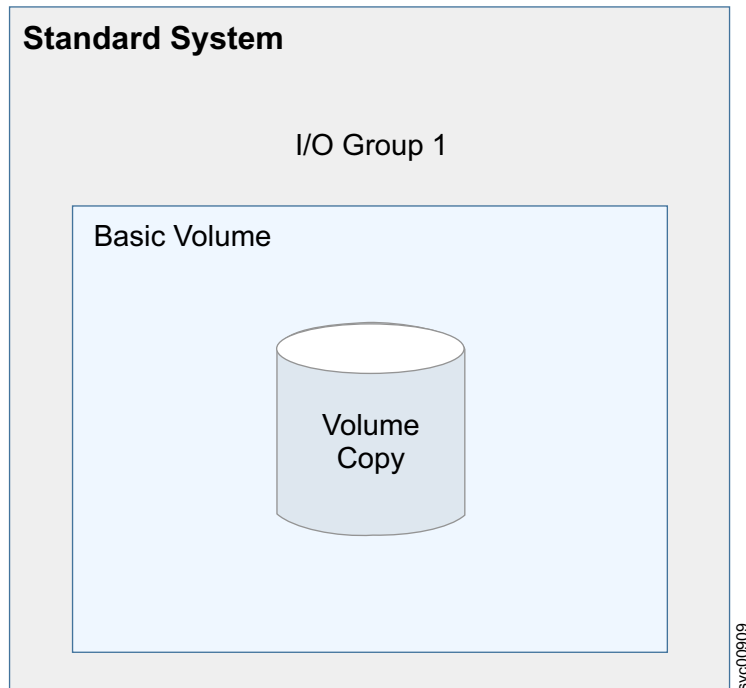

Figure 3. Example of a basic volume
- *Basic volumes*, where a single copy of the volume is cached in one I/O group. Basic volumes can be established in any system topology; however, Figure 3 on page 4 shows a standard system topology.